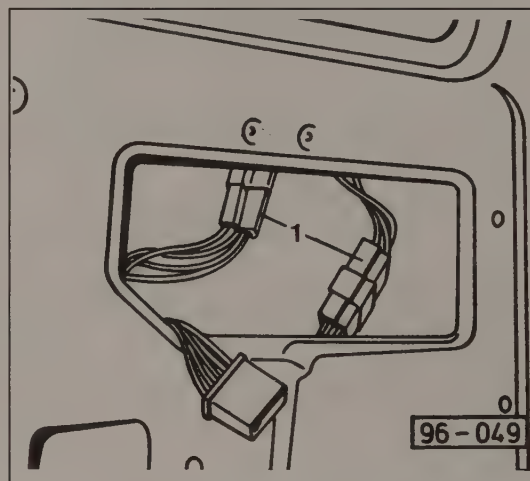

Fig. 5-20. Electrical connectors (1) behind door trim panel to be disconnected.
4. Remove the interior door trim panel and protective liner as described in **5.1 Door assembly**, then disconnect the electrical connectors shown in Fig. 5-20.